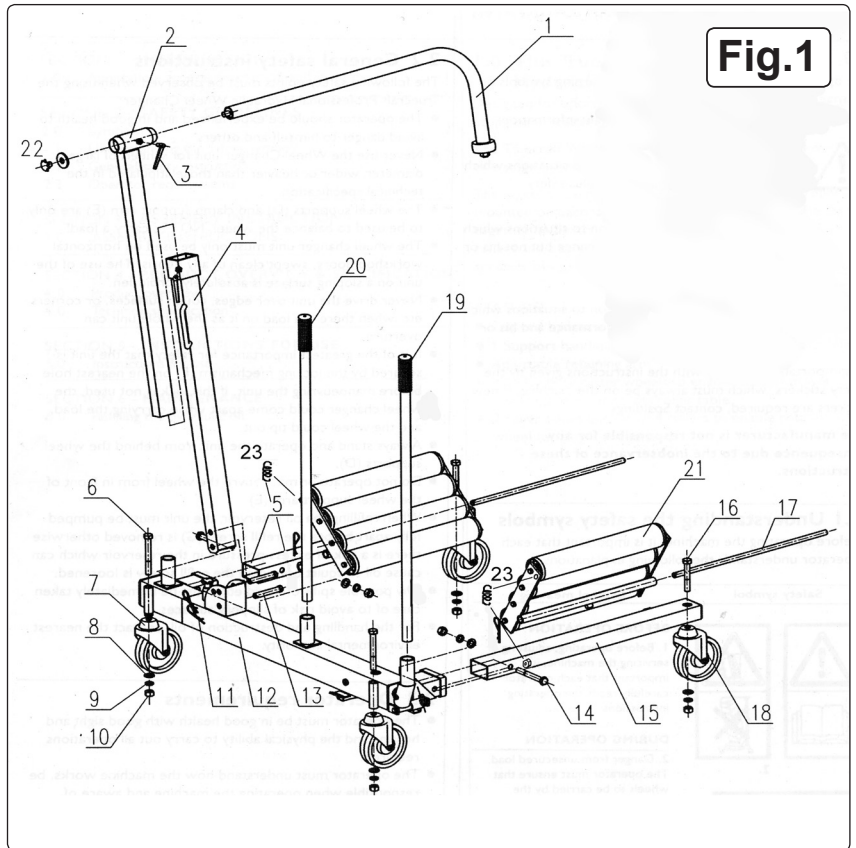

Fig.1
- ✓ Always stand and operate the wheel trolley from behind Upright Tube (4), see fig.1. Always move the Wheel Trolley using one Handle (20) in the socket on the left hand side (as viewed in the fig.1 position) and the other Handle (19) in the Socket above Lowering Pedal (A), see fig.2.
- 5.1. Refer to fig.1.
- 5.9. Fit wheel support (4) to frame (12) with handle to rear. Use pin (13) and R clip (11). Ensure R clips are on outside of frame as shown in fig.1.
- 5.11. Insert handles (19 and 20) into sockets shown in fig.1.